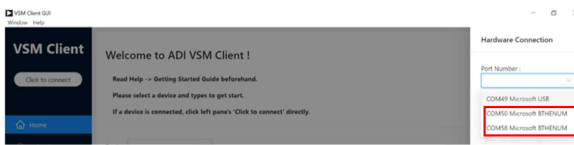

Figure 21. Bluetooth Connection COM Ports
- ▶ If using a Bluetooth connection, two ports are available. In the example shown in Figure 21, these ports are **COM50 Microsoft BTHENUM** and **COM58 Microsoft BTHENUM**. Select one of the two ports. If the following steps cannot be completed successfully with the selected port, select a different port.